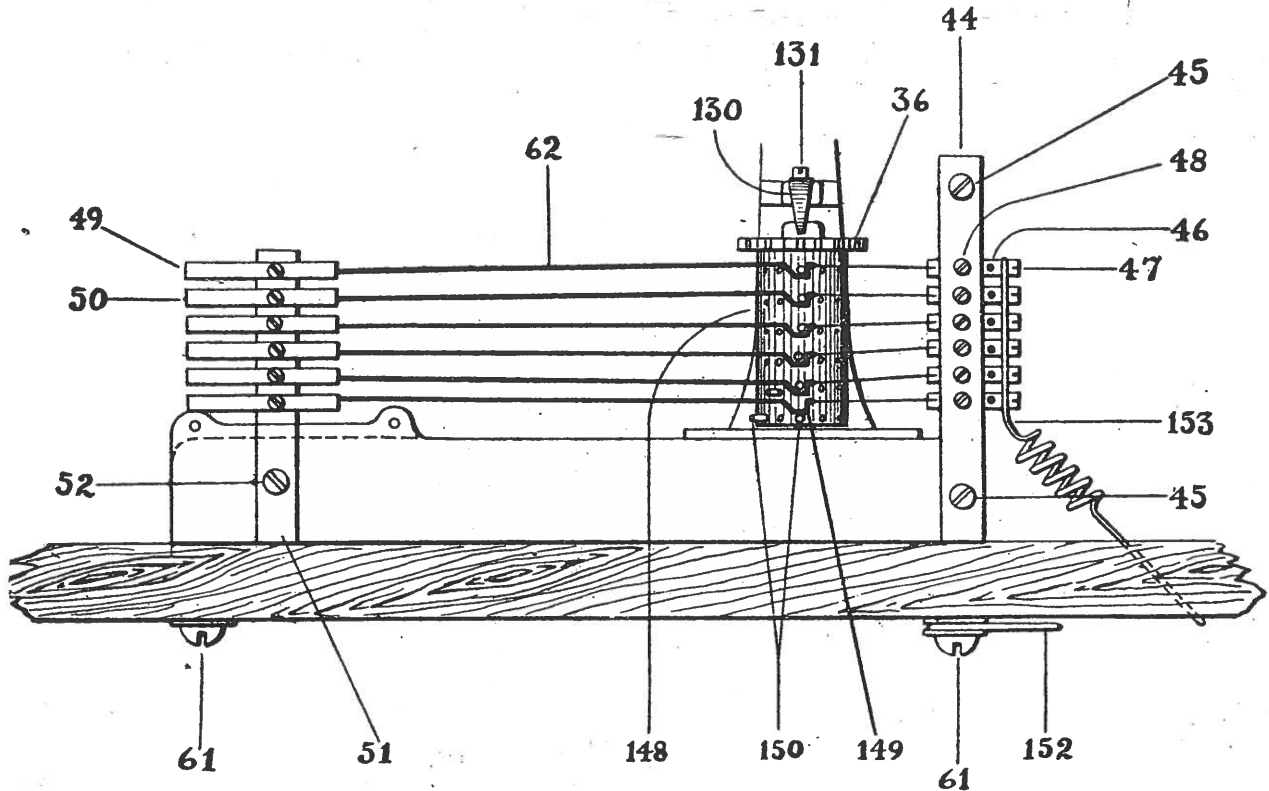

Fig. 5
This switch is used on class B clocks and differs from the Automatic Cut-Out in the substitution of the insulator drum 148, Fig. 5, for the metal switch flange 37, Figs. 1 and 2. It is set as follows:
3. By inserting the switch drum pins in the proper holes the different programs can be put in operation on any desired days or nights. Referring to Fig. 5 it will be noticed that for each commutator 62 there is provided a circle of 14 holes in switch drum 148. The lower commutator makes contact with contact pins in program circle No. 1—the largest circle, and if this program is to be in operation on say the five days of the week, Monday to Friday inclusive, simply place drum pins in the lower circle of holes in switch drum directly under "Mo", "Tu", "We", "Th", and "Fr". If program No. 2 is used on the five nights from Monday to Friday inclusive, place the drum pins in the next lower circle of holes in drum directly under the "Ns" following "Mo", "Tu", "We", "Th", and "Fr". If program No. 3 is to be in operation on Saturday simply place the switch pin in hole in **third circle** from bottom of drum directly under "Sa" and so on. Before inserting the drum pins turn drum as instructed above until the holes in which pins are to be placed stands in front, then press pins home, **using great care not to bend or injure in any way the commutators.** After having set the pins, set the switch as instructed above.
1. Place finger on **Front edge of index ratchet wheel** which in the  $2\frac{1}{2}$  minute clock is at lower end of switch drum, 148, Fig. 5, instead of upper end, and turn from **left to right**, until the index of the day or evening on which you are setting it stands at the pointer. If you set it Monday between 6.00 a. m. and noon, set to "Mo", if between noon and 6.00 p. m. Monday set to the "PM" following this "Mo" and so on.